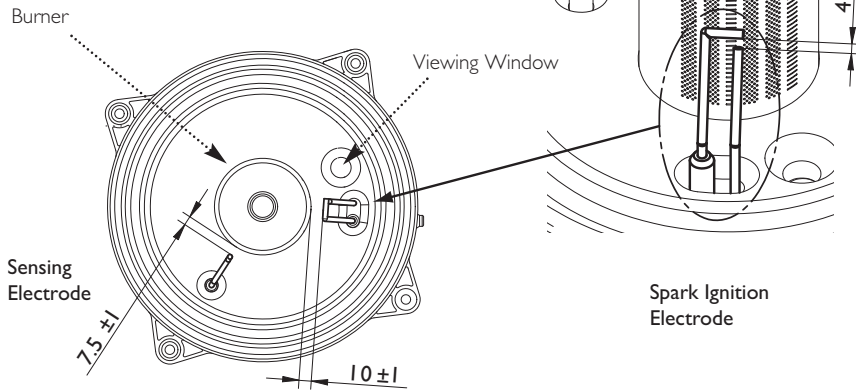

Fig. 55
11. Inspect the burner, electrodes (Fig. 55) and insulation, cleaning or replacing if necessary. Clean any dirt or dust from the air box.